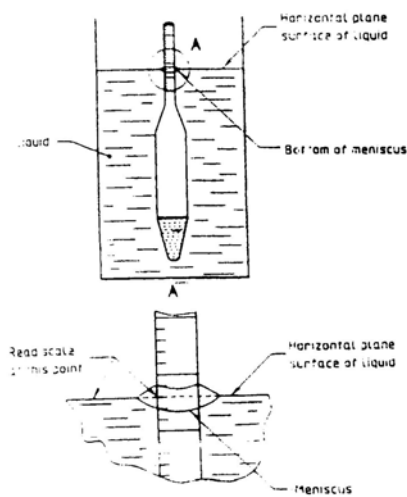
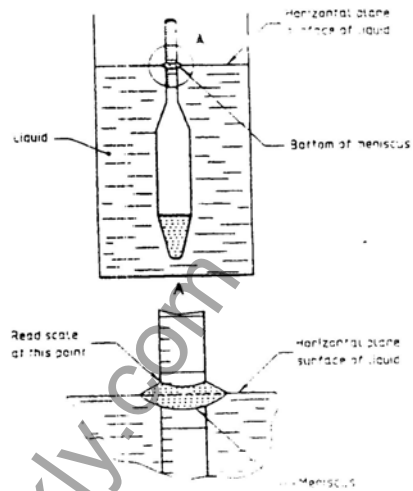

Figure 1
Figure 2
- 3- Pour the crude oil to be measure in a tall measuring glass cylinder (figure 1)(the type of container is irrelevant as long as it is high enough to allow the hydrometer to float freely). Bring the sample to 15 °C or 3°C above its cloud point or wax appearance temperature, whichever is the higher.
- 5- Read the hydrometer scale to the nearest one fifth of the scale division. For transparent liquids, record the hydrometer reading at the point on the hydrometer scale at which placing the eye slightly below the level of the liquid and slowly raising it until the surface, first seen as a distorted ellipse, appear to become a straight line cutting the hydrometer scale (figure 1). For opaque liquids, record the hydrometer reading at the point on the hydrometer scale to which the sample rises by observing with the eye slightly above the plane of the surface of the liquid (figure 2).